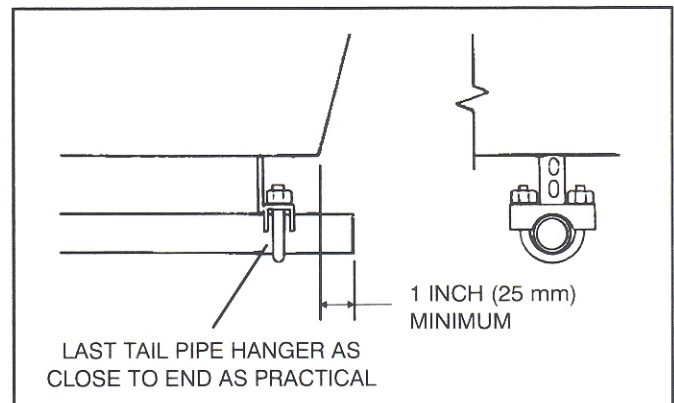

FIGURE 8. TERMINATING THE EXHAUST TAIL PIPE
7. Do not terminate the tail pipe underneath the vehicle. Extend it a minimum of 1 inch (25 mm) beyond the perimeter of the vehicle (Figure 8). Support the end of the tail pipe such that it cannot be pushed in and up under the skirt of the vehicle.